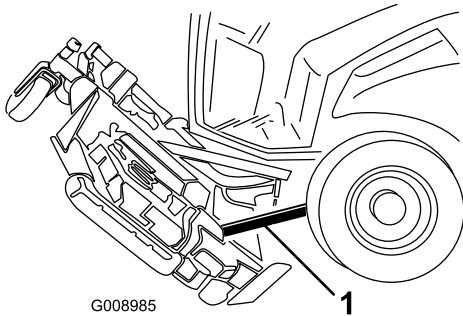

**Figure 103**
4. Remove the hairpin cotter and clevis pin securing the height-of-cut chains to the rear of the cutting unit (Figure 103).